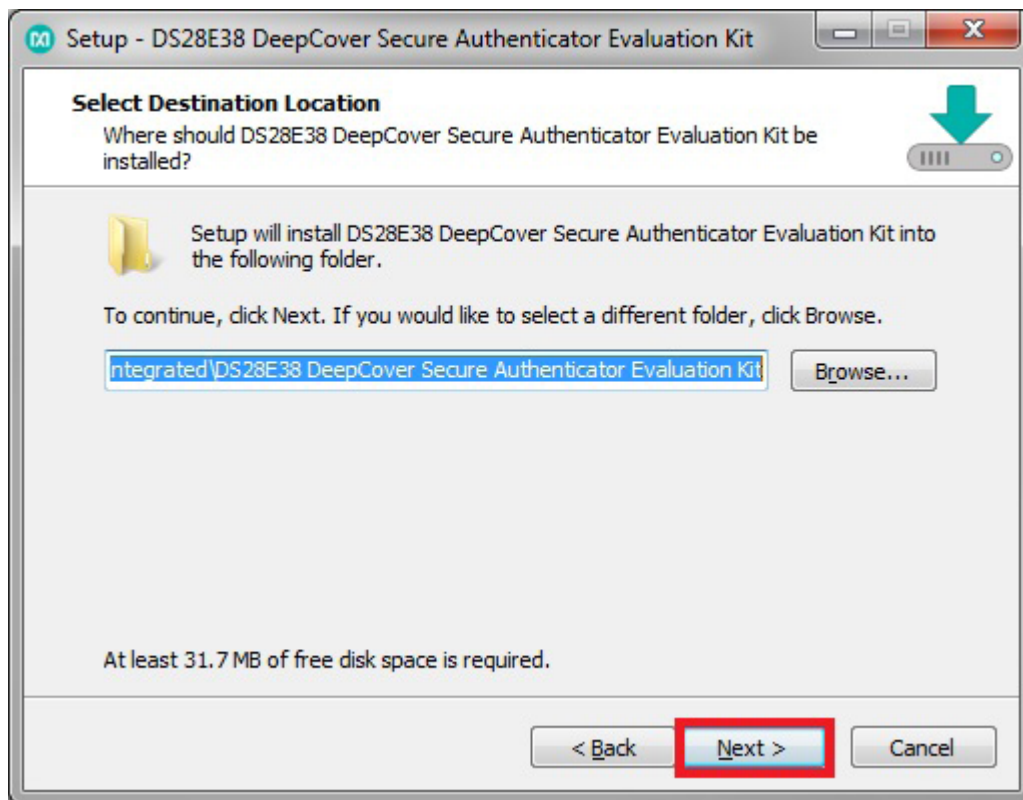

Figure 3. Install Folder Location
- 4) Click **Browse** to select a default folder location, and then click **Next** to install the EV kit software (Figure 3).